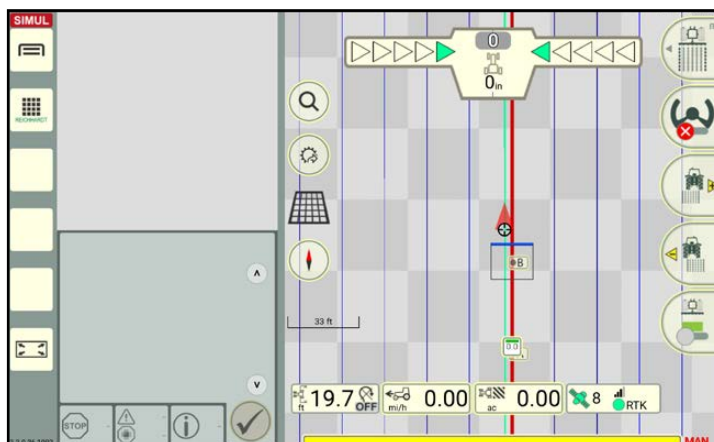

Fig. 92: Parallel track pattern after stopping the reference track recording
If the prompt to stop track recording was confirmed, you will automatically switch to field marking mode (see Fig. 92).
- A parallel track pattern is created for the last created reference track (see Fig. 92);